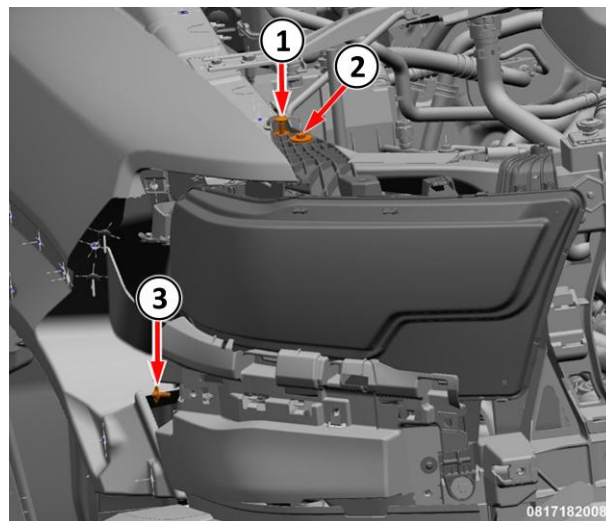

Figure B17 – Headlamp Assembly
27. Remove and retain the bolt from position (3) (Figure B17).
28. Remove and **DISCARD** the bolt from position (2) (Figure B17).
29. Remove the push pin fastener from position (1) (Figure B17).
34. Position the **NEW** headlamp unit to the vehicle and install the push pin fastener in position (1) (Figure B17).
35. Install a **NEW** bolt in position (2) and reuse the bolt in position (3). Tighten the bolts to 6.2 N·m (54 In. Lbs.) (Figure B17).